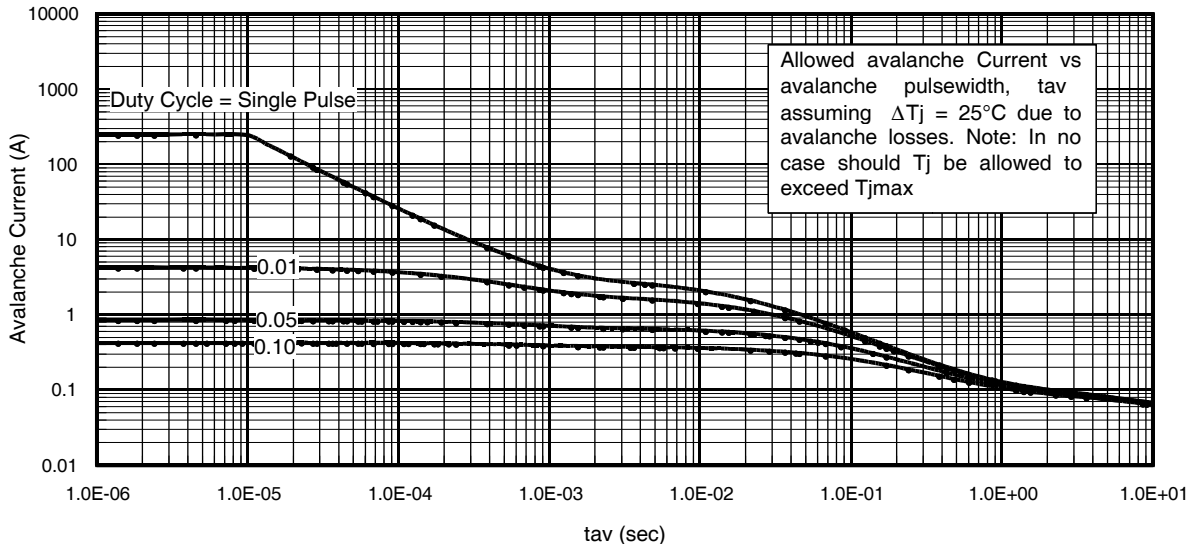

Fig 12. Typical Avalanche Current vs.Pulsewidth
**Notes on Repetitive Avalanche Curves , Figures 12, 13:
7. ΔT = Allowable rise in junction temperature, not to exceed T_{jmax} (assumed as 25°C in Figure 12, 13).